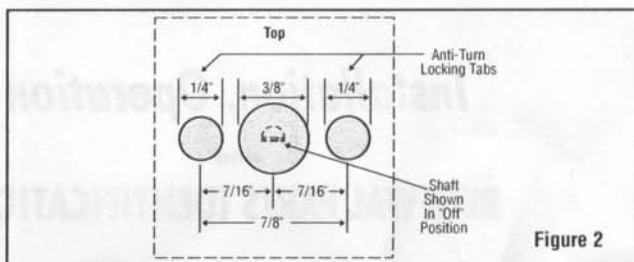

Figure 2
2. Layout mounting holes as per Figure 2.